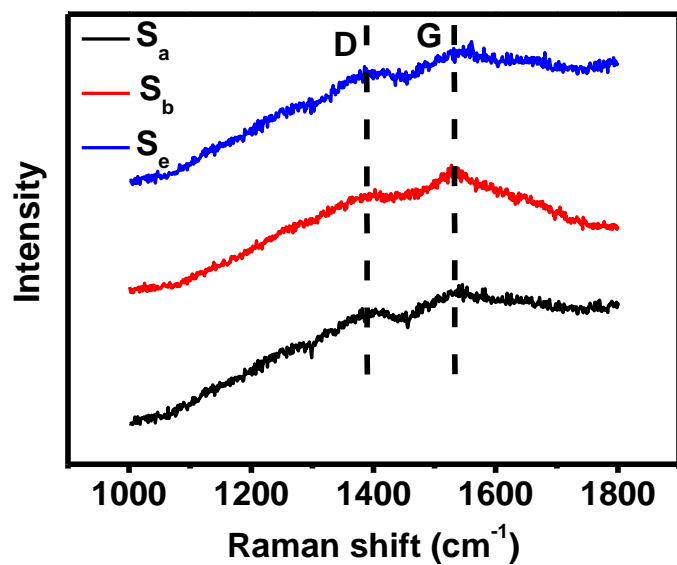

Figure S3: Raman spectra of S_a, S_b and S_e.
5. Raman spectra of S_a , S_b and S_e (Figure S3).
6. Deconvoluted C1s XPS spectra of different C-dots with peak area (A) ratios of the sp^3 C or oxidized C to the sp^2 C (Table S3).